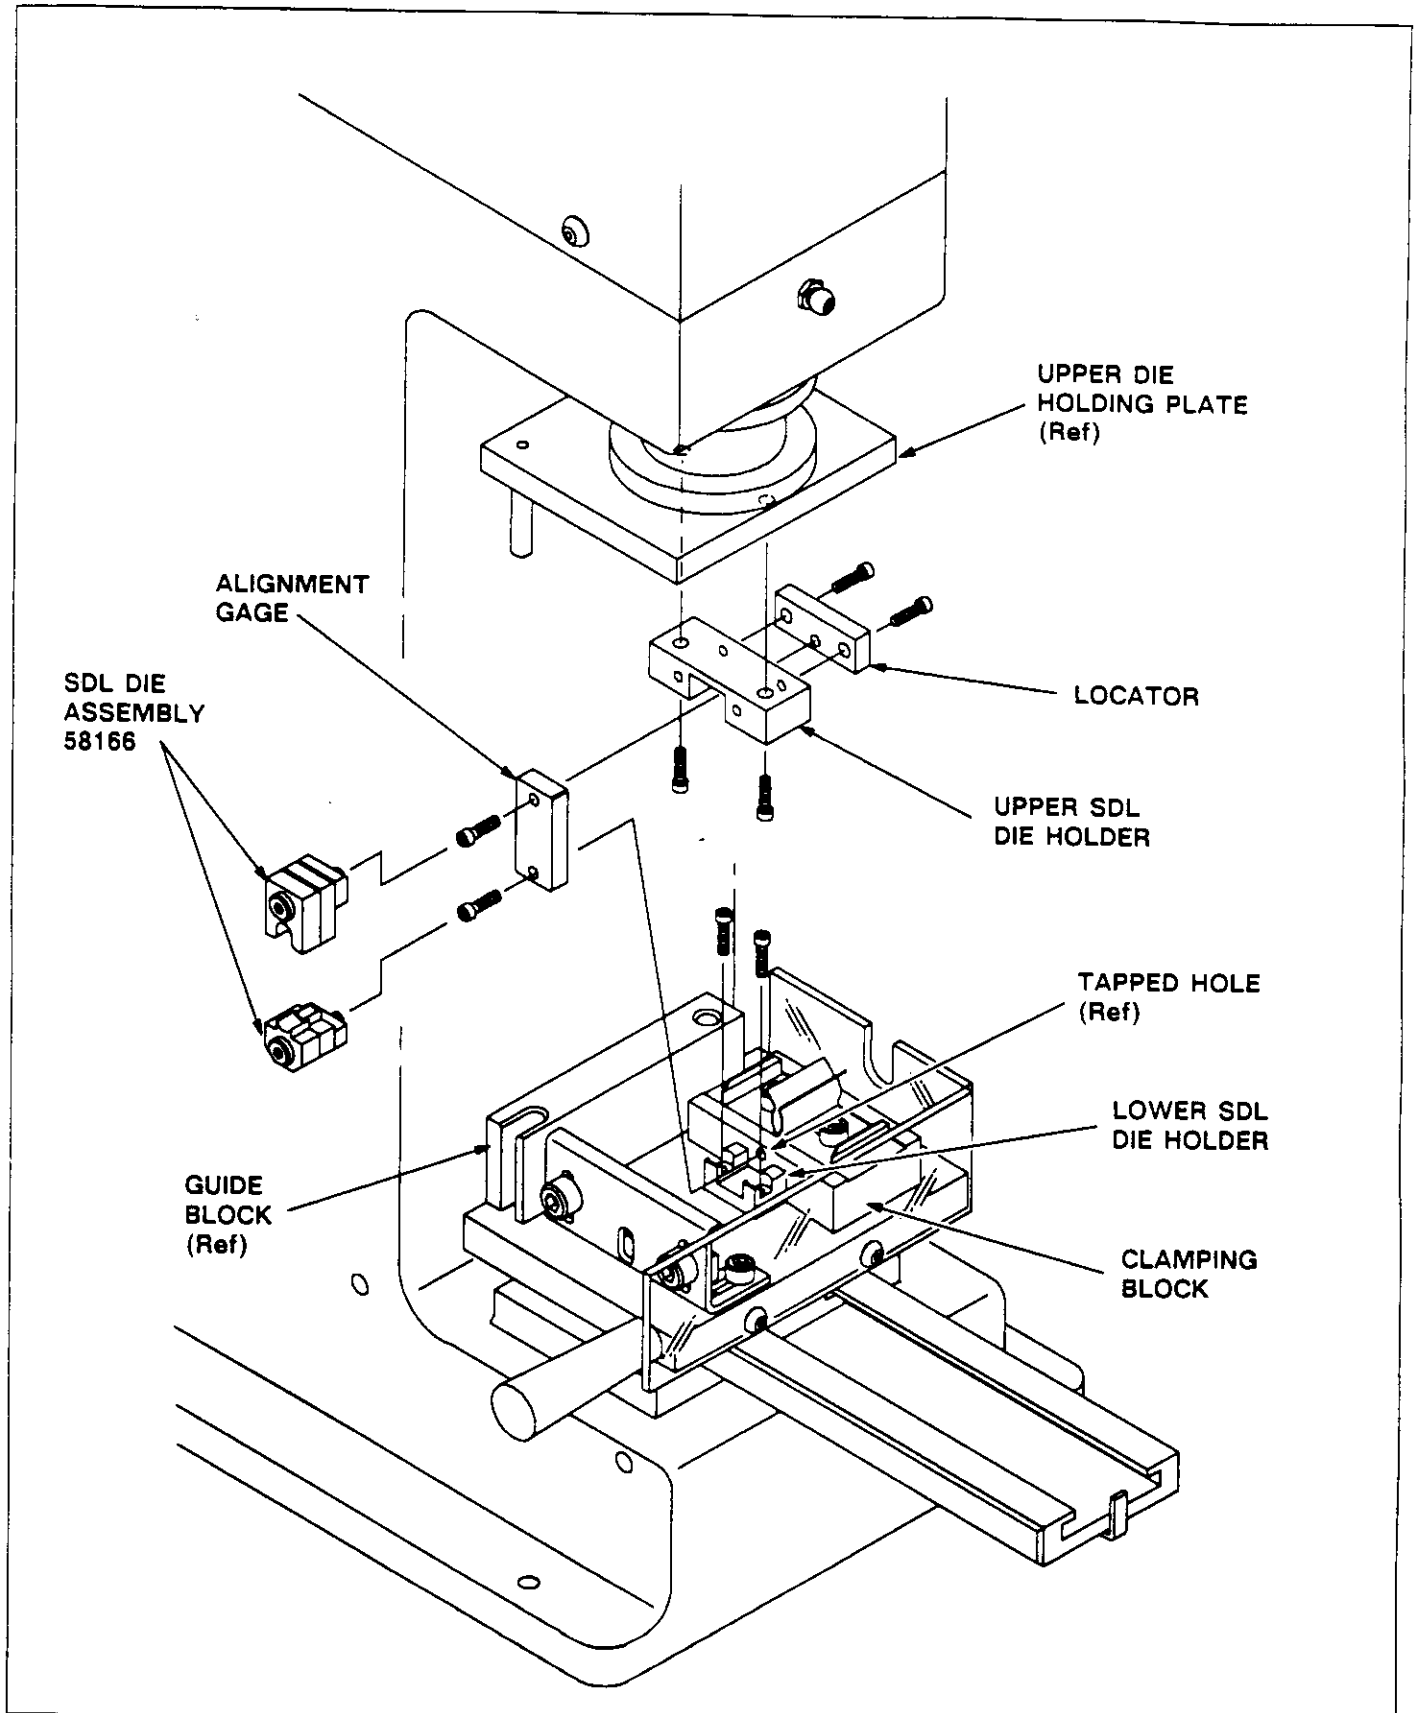

Fig. 4
D. AMPLIMITE to SDL Connector Conversion (For 58449-3 Assembly Only) (Figure 4)